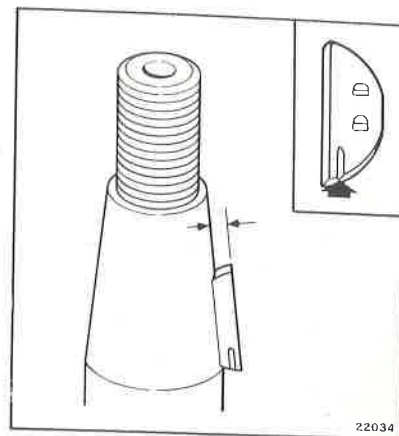

Figure 4-25. Flywheel Key Position Parallel to Taper
a. If flywheel key has been removed, reassemble to crankshaft with outer edge parallel to taper. See Figure 4-25.
Be sure that the single upset mark on the side of the key is facing down. See Figure 4-25. Incorrect installation of the key will affect cam position and ignition timing.